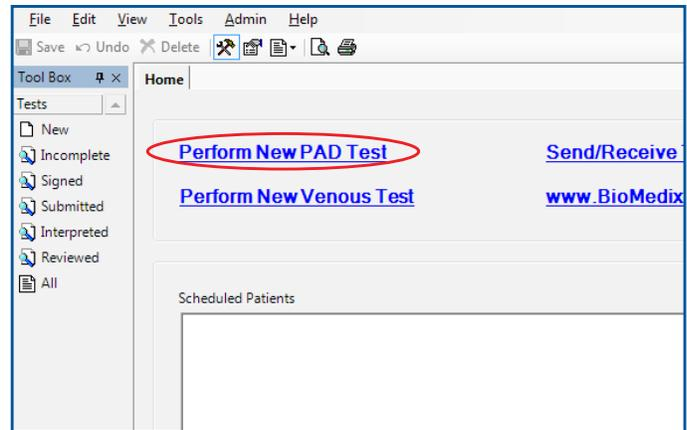

FIGURE 1.4 - Perform New PAD Test
3. Click “Perform New PAD Test” (Figure 1.4).